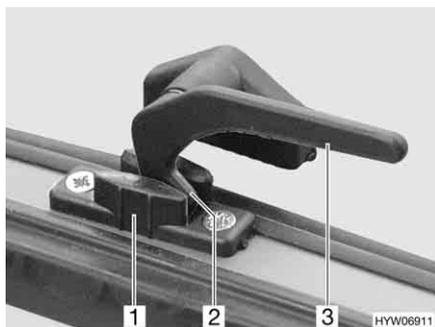

Fig. 54 Catch lever in the "continuous ventilation" position
- "Continuous ventilation" (Fig. 54)
- Turn the catch lever (Fig. 54,3) a quarter turn towards the centre of the window.
- Turn the catch lever a quarter turn towards the window frame. The locking catch (Fig. 54,2) has to be moved into the recess of window catch (Fig. 54,1).